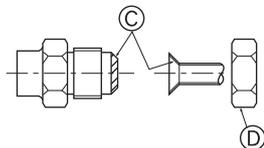

Fig. 4-5
(A) (Fig. 4-5)
(B) (Fig. 4-5)
4.4. Rohranschlüsse (Fig. 4-5)